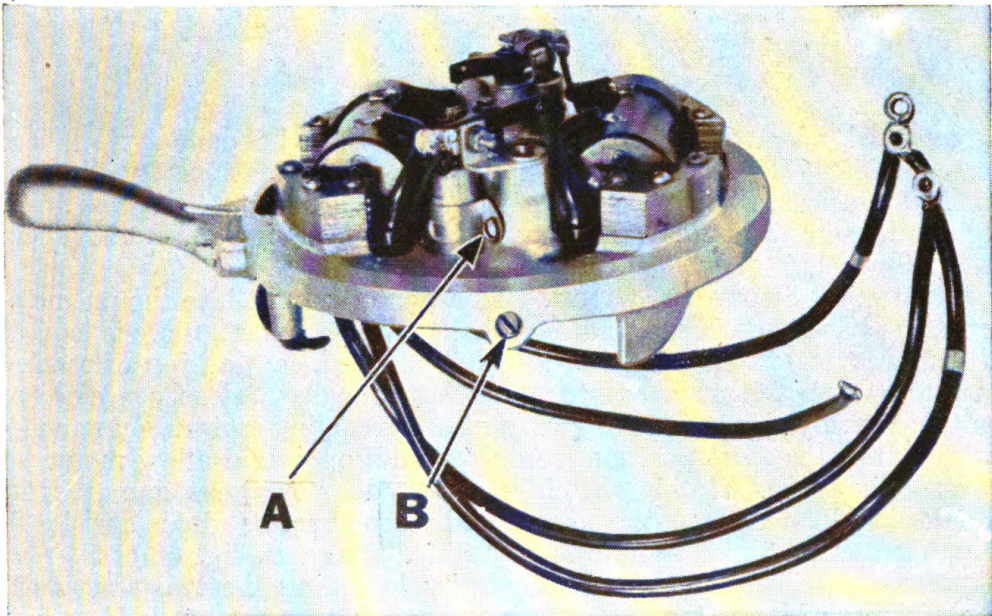

Figure 64. Armature base.
at *B*, figure 64. Remove hold-down screw on top of crankcase at center of armature base (see *A*, fig. 52) and armature may be removed.
h. INSTALLING NEW BREAKER POINTS. (1) Loosen and remove nut holding breaker-arm spring fast to armature base. Remove small clip holding breaker arm on pivot post. Lift breaker-arm assembly from pivot post. Remove condenser and coil wires from breaker plate. Remove screw holding breaker plate to armature base, pivot post, and stationary point.
(2) Install new points. Flywheel must be replaced to readjust points. Follow adjusting directions in paragraph 17*e*.
i. INSTALLING NEW CONDENSER. To install new condenser first unsolder condenser wire from breaker-point bracket and remove screw in condenser clip at *A*, figure 64. Install new condenser and solder lead wire to breaker-point bracket. Use only resin-core solder.